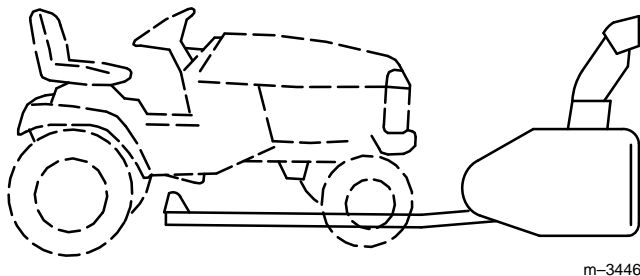

Figure 10
2. Park the tractor with the snowthrower lift rod between the tractor wheels (Fig. 10). Lower the attachment lift and turn the ignition key to "STOP" to stop the engine. Remove the key.